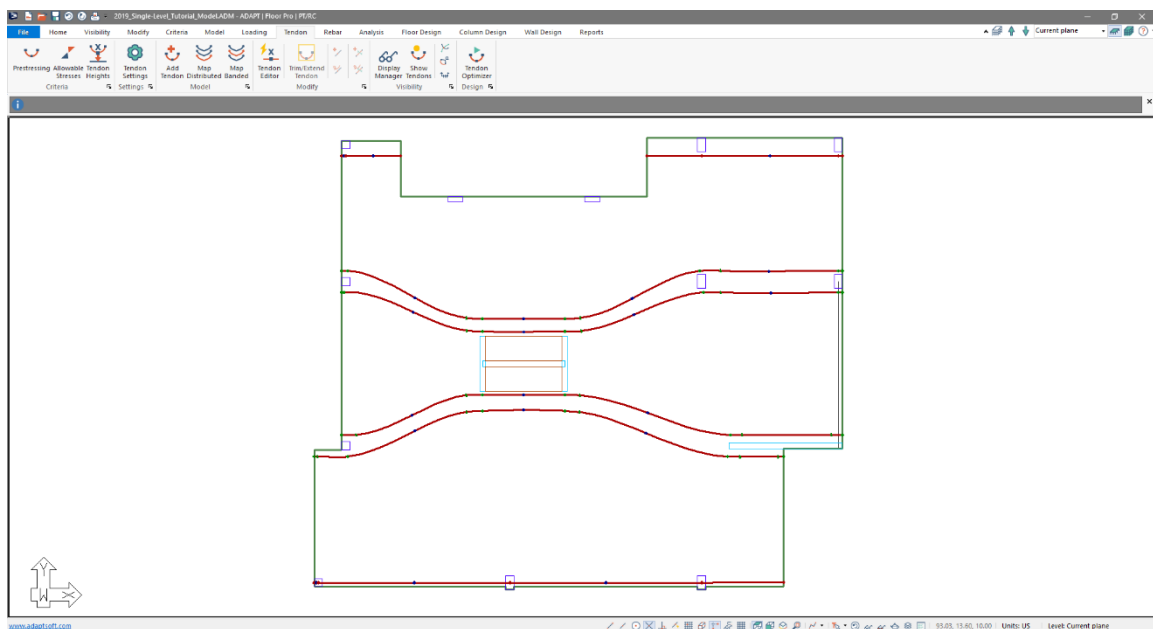

Figure 8-20
- You can now add other swerve points to the other spans in the tendon to adjust and smooth out the curvature of each tendon. When you are finished the tendons should now look similar to **FIGURE 8-20**.